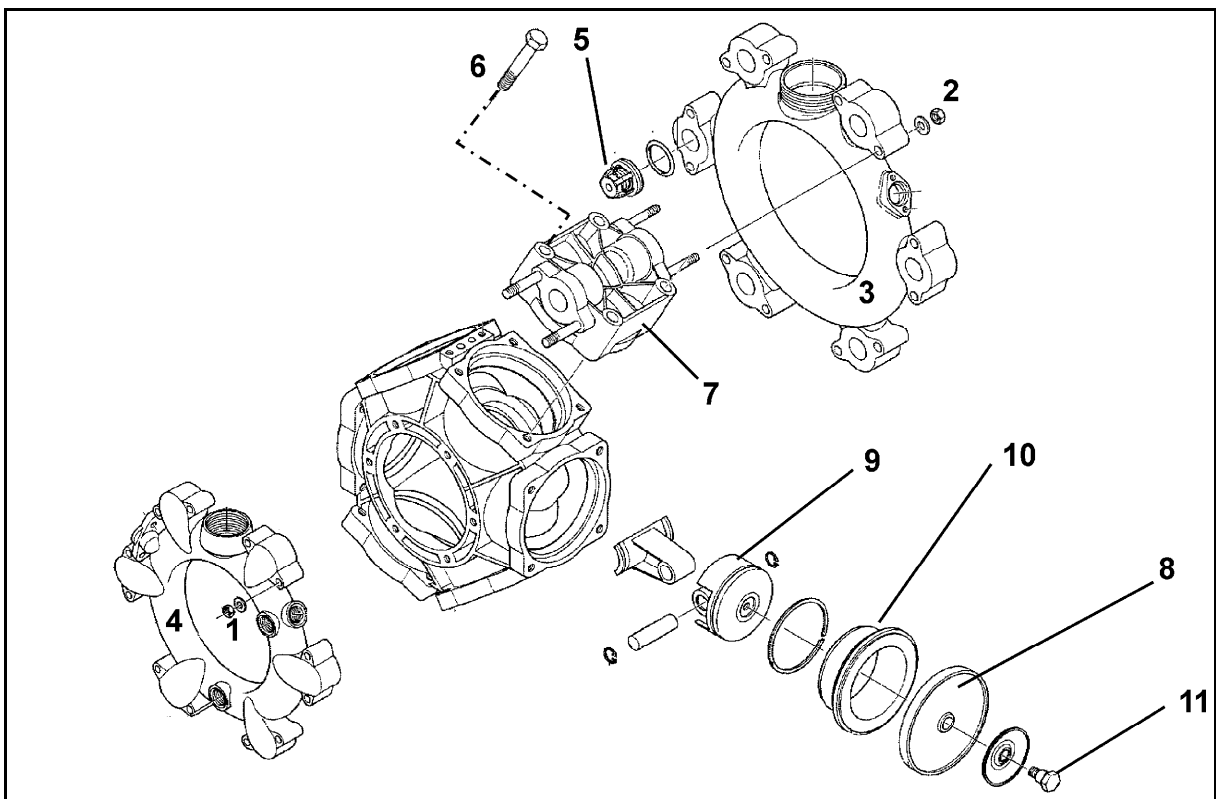

Fig. 150
- At least once a year, check that the piston diaphragm (Fig. 150/8) is in perfect condition by removing it.
- Pay attention to the respective installation positions of the valves on the suction and pressure sides before removing the valve groups (Fig. 150/5).
- As a rule, replace all piston diaphragms (Fig. 150/8), even if only one piston diaphragm distorted, punctured or porous.
2. Release the screws (Fig. 150/1) and remove the tensioning clamp (Fig. 150/2).
3. Remove the suction and pressure ports (Fig. 150/3, Fig. 150/4) including the valve groups (Fig. 150/5).
4. After removing the screws (Fig. 150/6), remove the cylinder head (Fig. 150/7).
5. Check the piston diaphragm (Fig. 150/8).
- Secure the piston diaphragm (Fig. 150/8) with a washer disc and a screw (Fig. 150/11) on the piston (Fig. 150/9), so that the rim shows on the cylinder head side (Fig. 150/7).
- Always tighten the nuts (Fig. 150/1,2) in a crosswise fashion using the specified torque. Improper tightening of the screws causes warping, which results in leaks.
1. Undo the screw (Fig. 150/11) and remove the piston diaphragm (Fig. 150/8) and the washer disc from the piston (Fig. 150/9).
3. Remove the hydraulic cylinder (Fig. 150/10) from the pump housing.
6. Insert the cylinder (Fig. 150/10) back into the pump housing.
7. Fit the piston diaphragm (Fig. 150/8).
8. Mount the cylinder head (Fig. 150/7) on the pump housing and tighten the screws (Fig. 150/6) an equal amount in a crosswise fashion.
9. After testing and cleaning, fit the valve groups (Fig. 150/5).
11. Mount the suction (Fig. 150/3) and pressure port (Fig. 150/4) on the pump housing.
12. Tighten the nuts (Fig. 150/1,2) in a crosswise fashion using a torque of **11 Nm**.